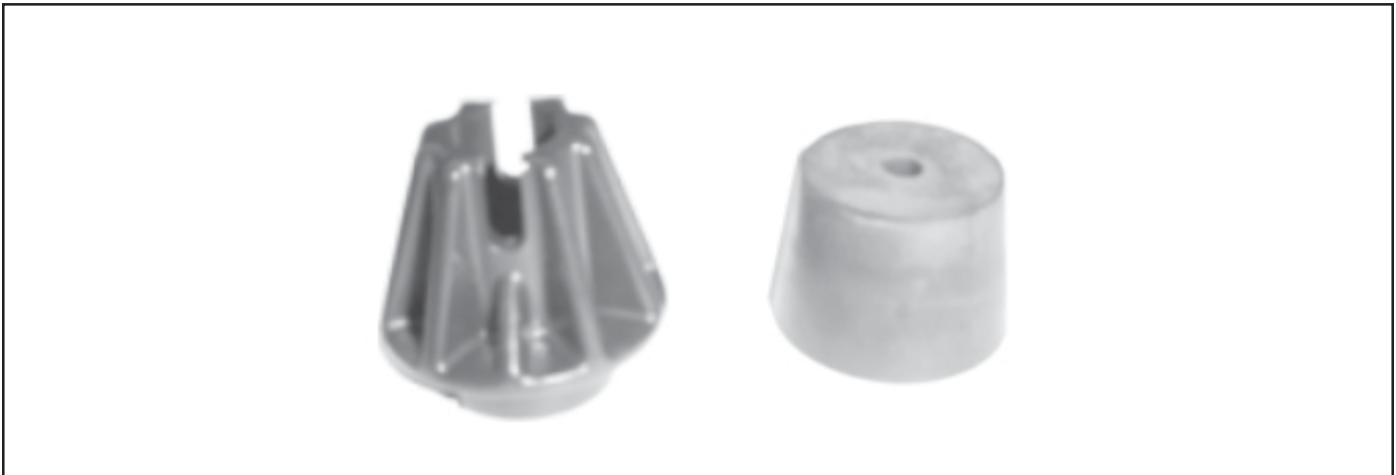

Figure 5 - Release Valve Stem Guard
- 3.1.12** Apply standard or alternate stem guard (Figure 5) to the removed service portion and hold in place with cotter pin.